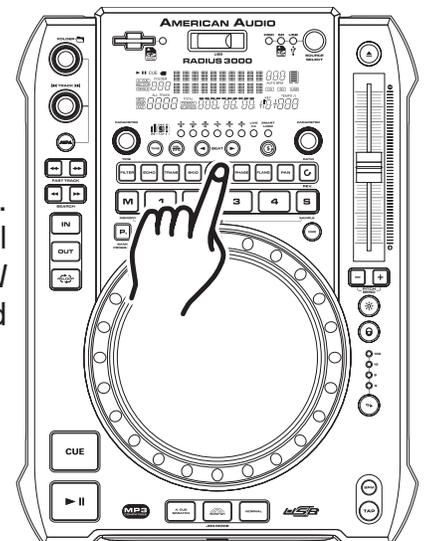

Figure 51
**HOLD BUTTON:** Use the *HOLD BUTTON (26)* to lock your parameters. If the hold button is not activated any changes to your parameters will be momentary. To activate the hold function press the *HOLD BUTTON (26)* as in figure 51. When the hold function becomes activated, the hold button will begin to glow blue.